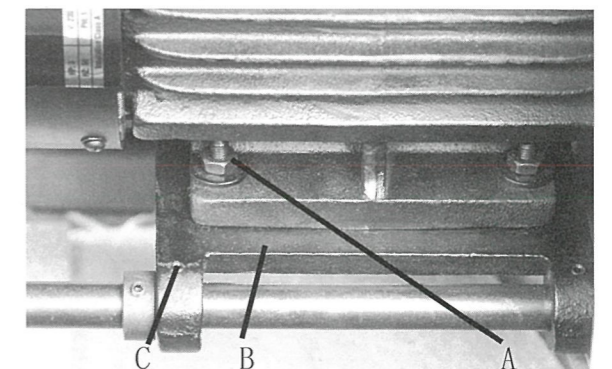
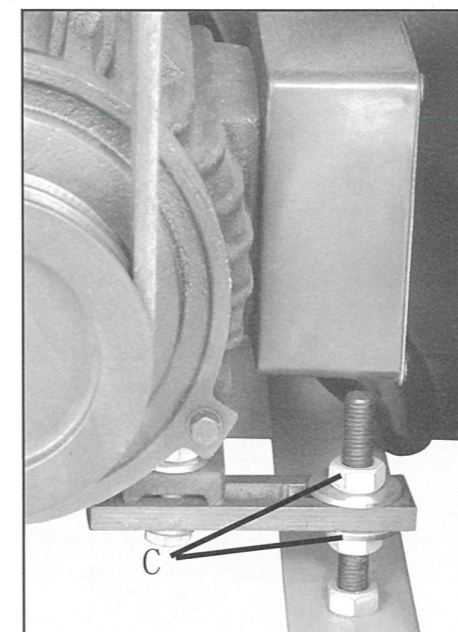
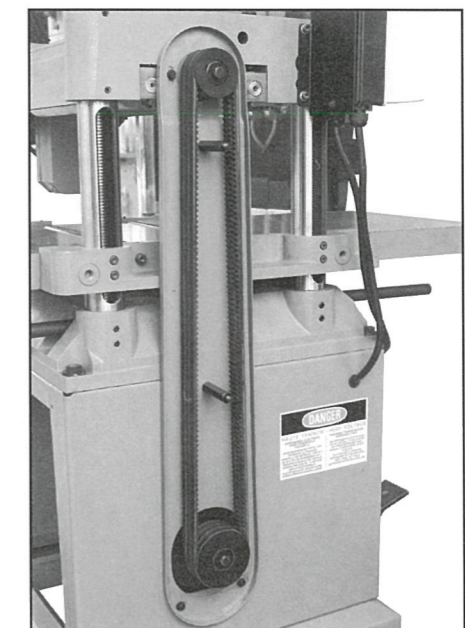

Fig. 8
Fig. 10
Fig. 9
2. Assemble the motor to the motor mounting plate, as shown in Fig.8.
NOTE: It is very important the motor must be mounted to motor plate by using the mounting hardware (A) Fig.8.
3. Using a straight edge, align the motor and cutterhead pulleys as shown in Fig.9, the motor plate (B) Fig. 8 can be moved for alignment by loosening the set screws (C) in the motor plate (B) as shown in Fig. 8.
4. Assemble the belts to the two pulleys, as shown in Fig.9, and adjust for the proper belt tension by rising or lowering the motor plate, as shown in Fig. 10, then tighten the nuts (C) Fig.10. Correct tension is obtained when there is approx. 1/4" deflection of the center span of the pulley by using light finger pressure.